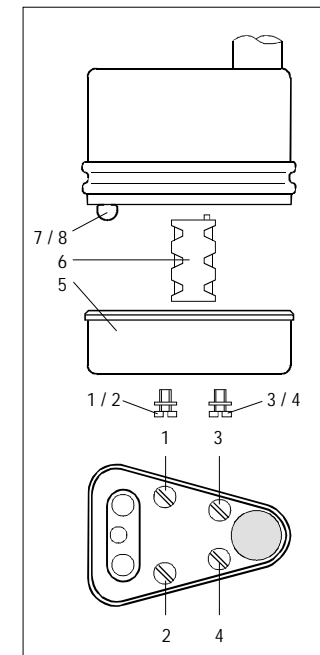

Fig. 4: Exchange of batteries/lamp
3.2 Exchange of lamps (see Figure 4)